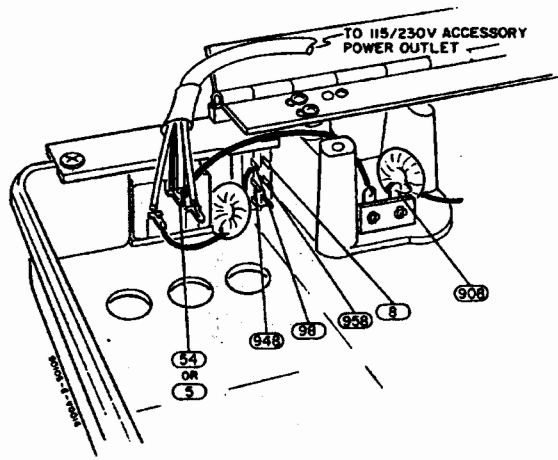

Figure 13. Second Configuration for Bottom Case With 115/230V Power Outlet
2. PRIOR TO REMOVING THE ASSEMBLY FROM THE CALCULATOR UNDER TEST, CONNECT THE KIT'S ASSEMBLY AS SHOWN IN FIGURE 13, MONITORING ONE ASSEMBLY FROM THE CALCULATOR. UNDER TEST TO INDICATE THE CONNECTION. UNDER CONTROL, UNDER TEST, THE TOP CASE ASSEMBLY AND THE POWER SWITCH SWITCH OF THE CALCULATOR UNDER TEST ARE BEING USED.